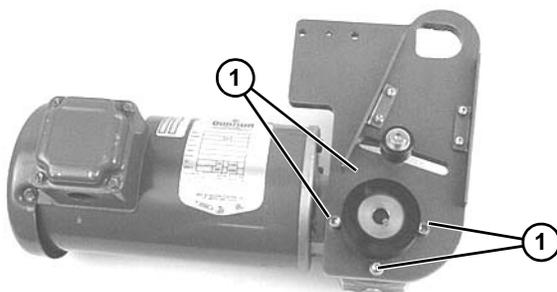

Figure 15
- If required, change gearmotor position by removing four (4) screws (Figure 15, item 1). Rotate gearmotor to other position and replace screws (Figure 15, item 1). Tighten to 103 in-lb (12 N-m).